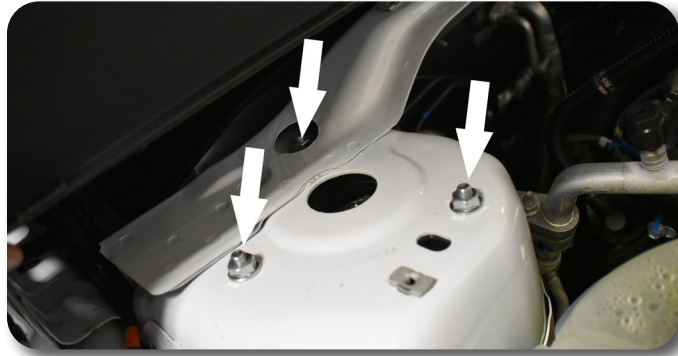

Figure 13
17. With the spacer installed on the strut install the strut assembly into the vehicle using the provided 5/16" washers and prevailing torque nuts **Figure 13**. Torque the strut mounting nuts to 26 ft-lbs.